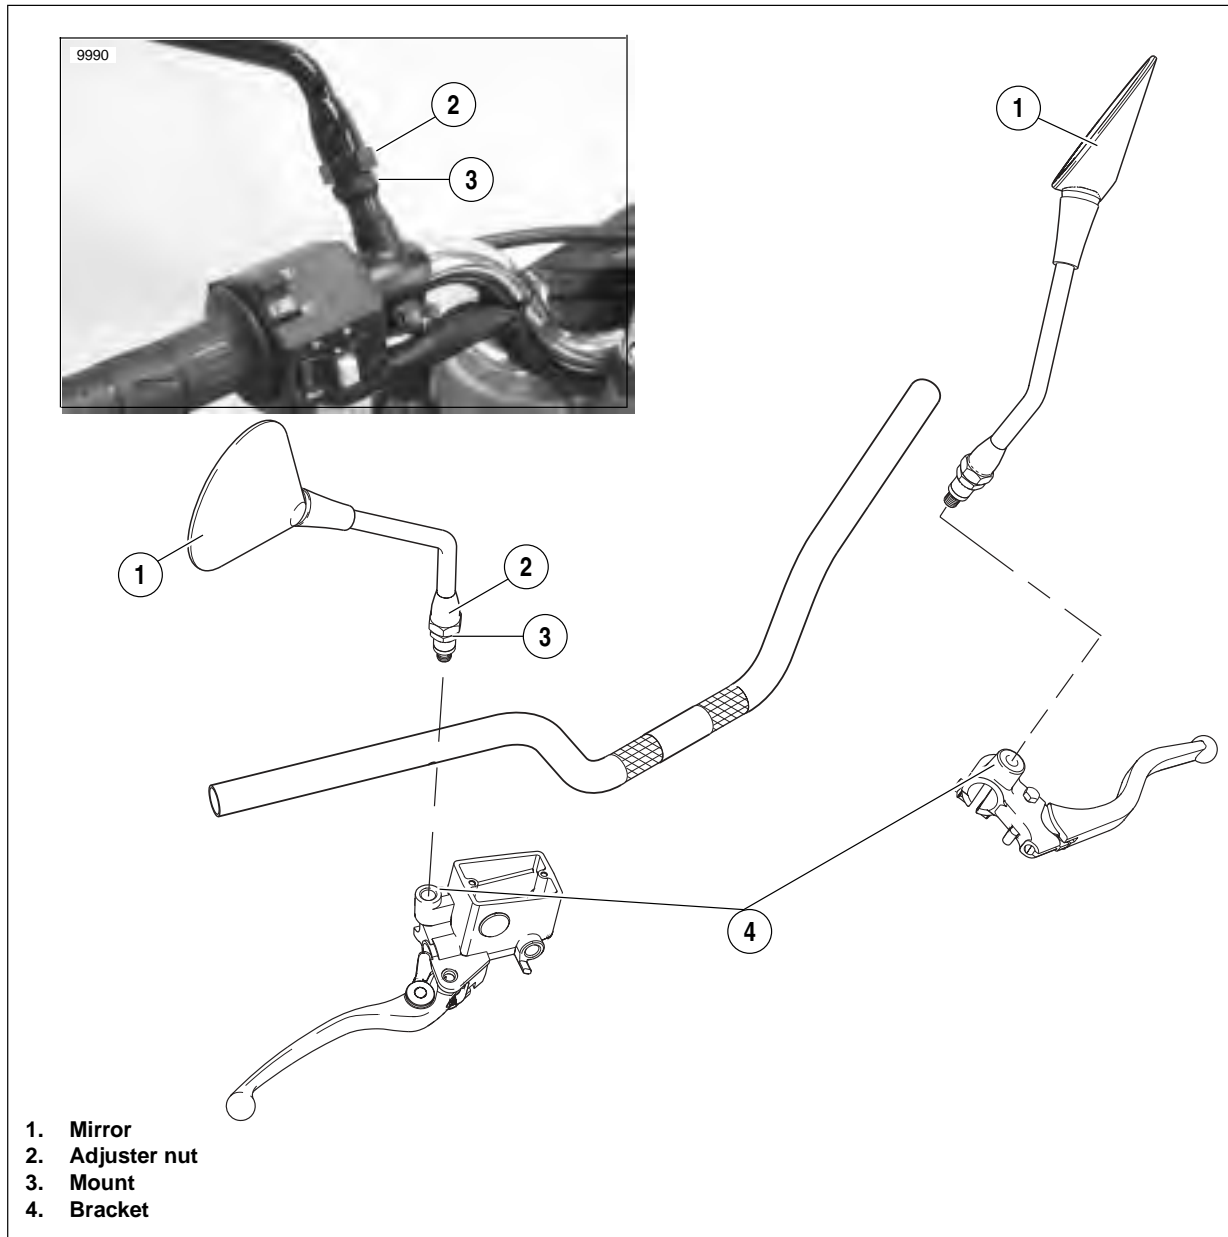

Figure 2-113. Mirrors and Mounting Hardware (Typical)
1. See Figure 2-113. Loosen adjuster nut (2) and remove mirror (1) from mount (3).
2. Loosen mount (3) and remove from bracket (4).
1. See Figure 2-113. Install mount (3) onto bracket (4) and tighten to 20-22 ft-lbs (27.1-29.8 Nm).